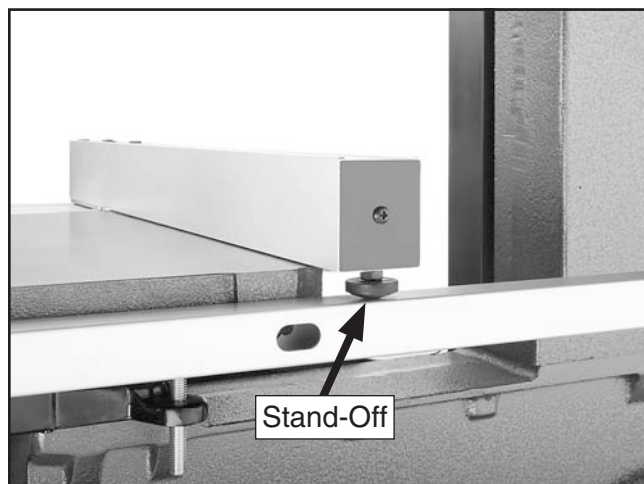

Figure 21. Fence stand-off installed.
19. Thread the M6-1 hex nut onto the fence stand-off, then thread it into the rear underside of the fence (see **Figure 21**) so that the fence rests the same height above the table along its full length. Tighten the hex nut against the fence to secure the setting.